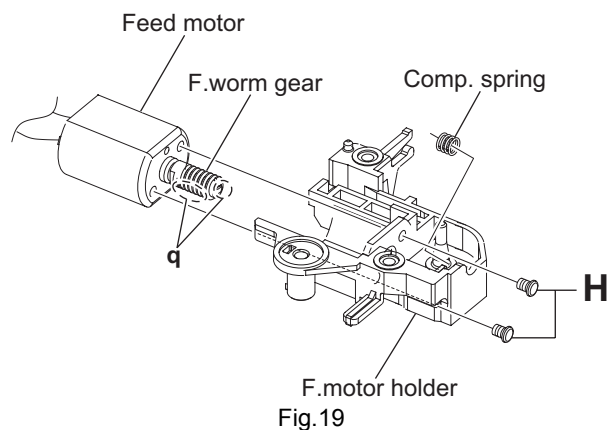

Fig.19
- (2) Remove the two screws **H** attaching the feed motor to f.motor holder. (See Fig.19.)